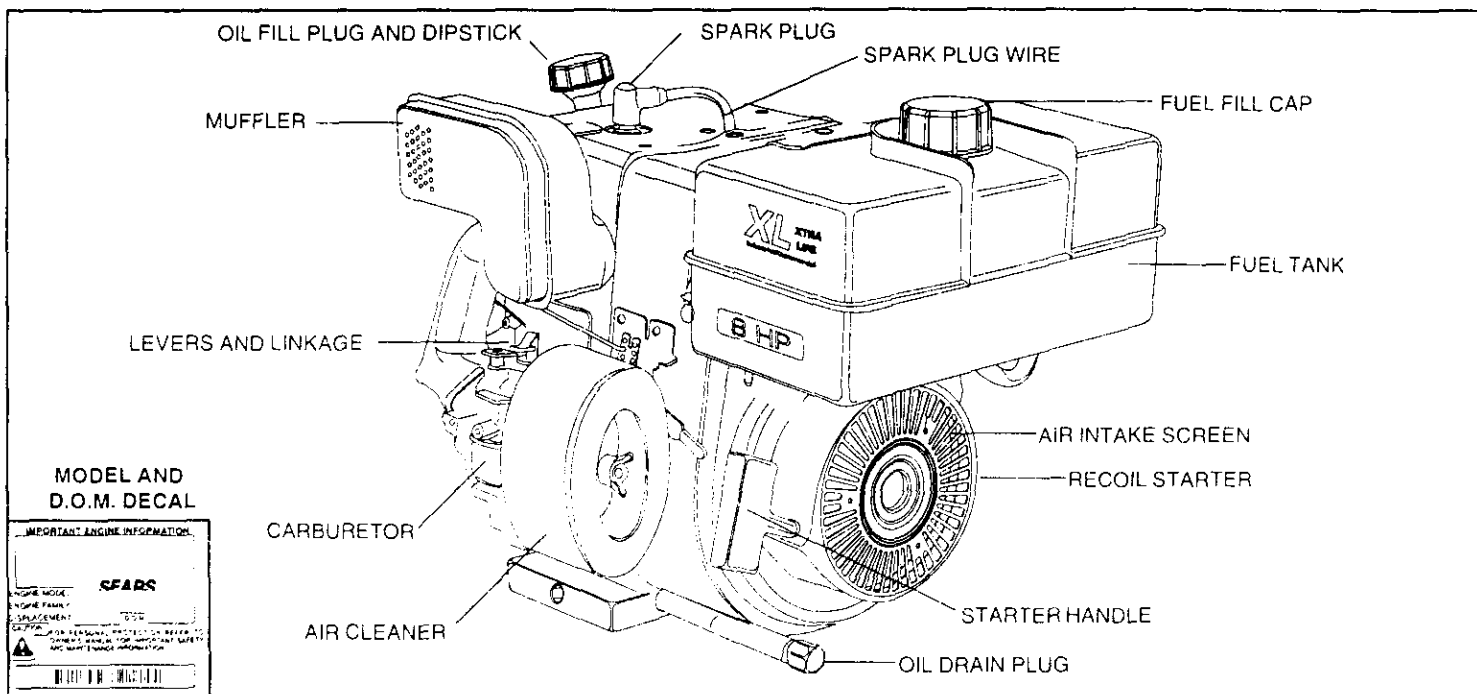

Figure 1
- B. Clean area around oil fill plug (see Figure 1).
B. Be sure spark plug wire is attached to spark plug (see Figure 1).
C. Be sure stop switch (see Figure 1) next to spark plug is not contacting spark plug.
- 2 Push stop switch (see Figure 1) located next to spark plug on engine against spark plug and hold it in this position until engine is completely stopped.
- A. Position equipment so engine oil drain plug is lowest point on engine (see Figure 1).